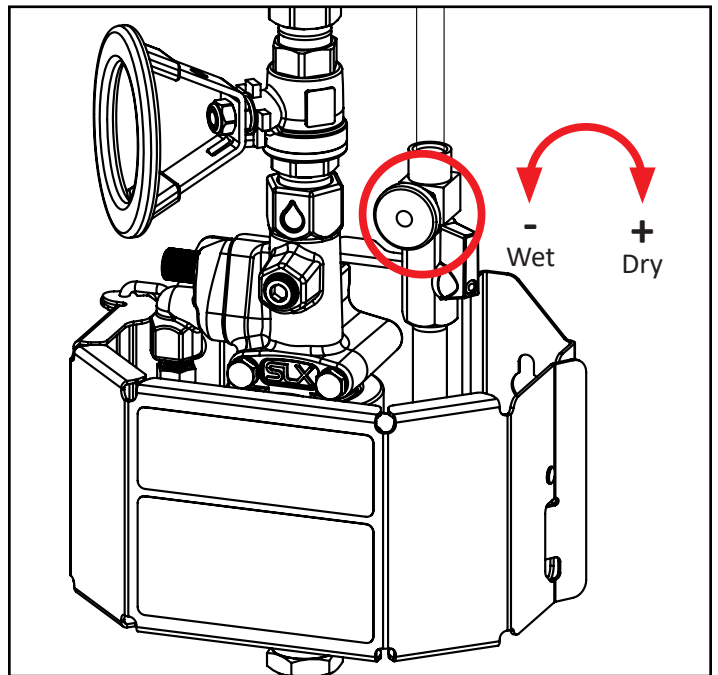

Fig. 6.2: Air pressure adjustment for foam quality.
7. To alter foam consistency adjust the air pressure [Fig 6.2]: